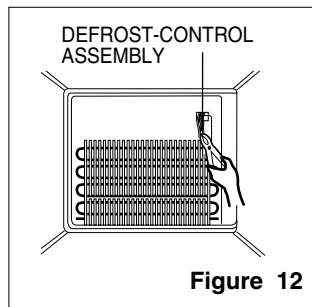

Figure 12
2. Separate the connector with the defrost control assembly and replace the defrost control assembly after cutting the tie wrap. (Figure 12)